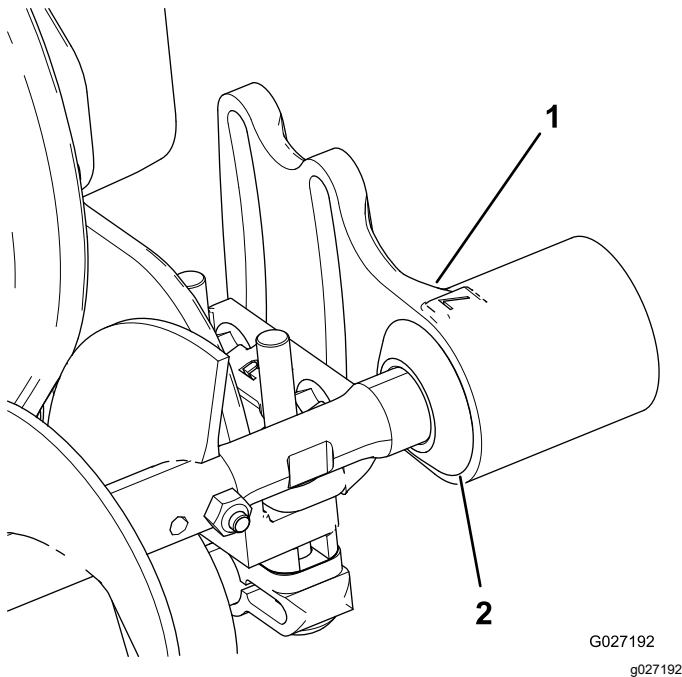

Figure 10
1. Slide each excluder seal outward until the lip seals are in light contact with each bearing housing (Figure 10).